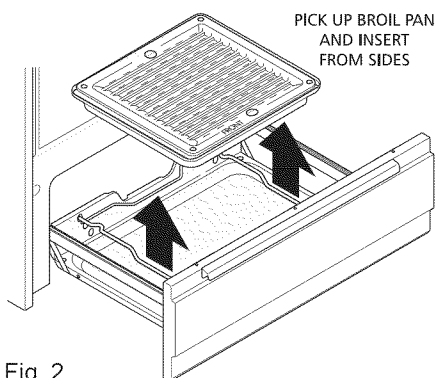

Fig. 2
2. Remove broiler pan & insert (Fig. 2).
6. Place broiler pan on rack; make sure the broiler pan and insert is positioned as shown (Fig. 2). Be sure front of pan is positioned correctly in rack.
2. Remove 2 screws located on the inside of the oven door liner (See **A** Fig. 2)
3. Insert the 2 screws into the door hinge holes located on the side of the hinge arm, one into each hinge (See **B** Fig. 2).
5. Reinstall the 2 screws into the door liner (See **C** Fig. 2).